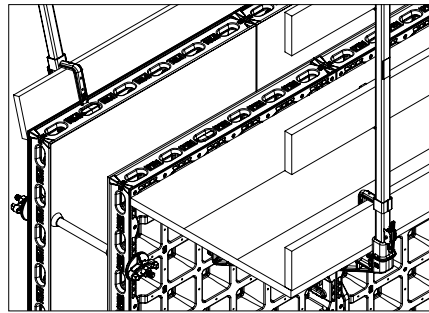

Fig. B4.03a
4. Lay out 5 cm thick decking from underneath across the entire width of the bracket. The first plank must rest against the DP panel. (Fig. B4.03a)
(Fig. B4.03a)